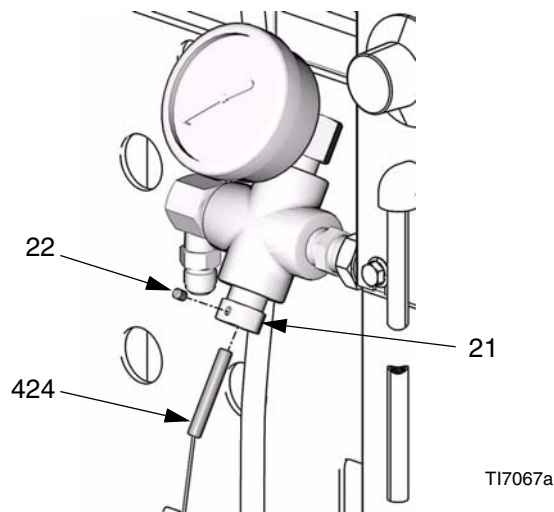

FIG. 10. Temperature Sensor
2. Remove temperature sensor (424):
- a. Loosen setscrew (22) on thermowell housing (21). See FIG. 10 on page 40.
- b. Pull sensor (424) out of thermowell housing.
3. Remove access cover (39) from back of control module.
4. Disconnect temperature display power cable from J14 or J15 at bottom left of control board (406).
5. Remove four screws from rear panel studs and remove temperature display (403) from front plate (401).
6. Remove screw and nut (409) holding display to plate (403).
7. Pull sensor cable through split in bushing (411).
8. Reassemble in reverse order. Mount temperature display so Heater Power switch off (0) position is at left when facing control panel.